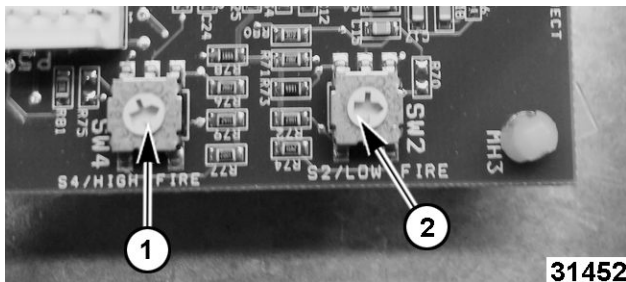

Fig. 50
- High Fire = F (1, Fig. 50)
- Low Fire = 9 (2, Fig. 50)